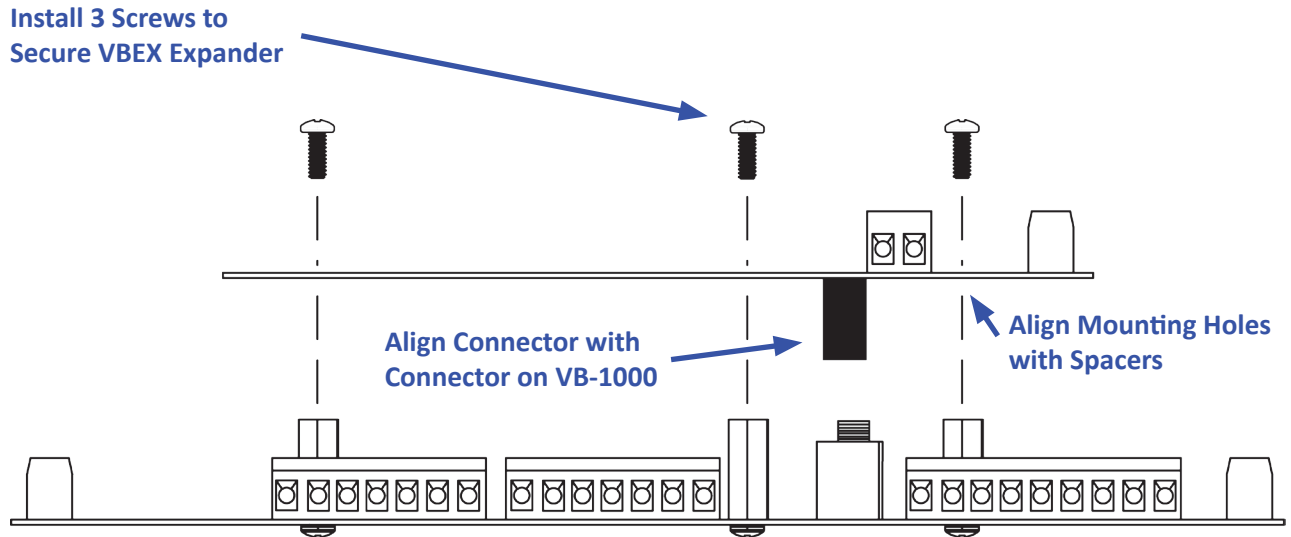

Figure 1.2 - Mounting the VBEX-TC
3. Carefully aligning the VBEX-TC with the installed spacers, gently plug the VBEX-TC into the EXP1 connector on the VB-1000. Ensure proper alignment on EXP1. When installed correctly, all the EXP1 pins will be plugged into the VBEX-TC and the VBEX-TC will be placed against the spacers and the mounting holes will align with the spacers correctly. Refer to Figure 1.2.